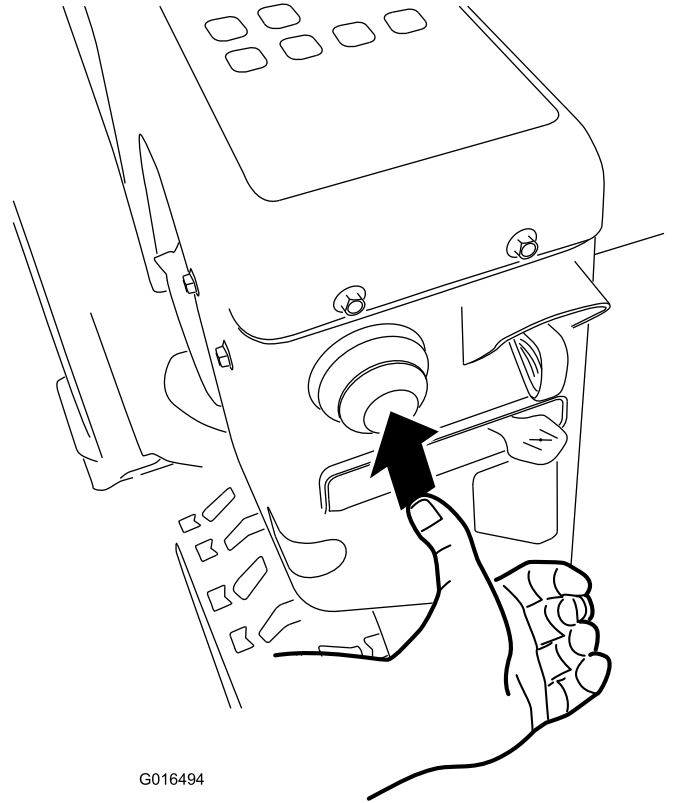

Figure 27
4. Firmly push in the primer 3 times with your thumb, holding the primer in for a second before releasing it each time (Figure 27).